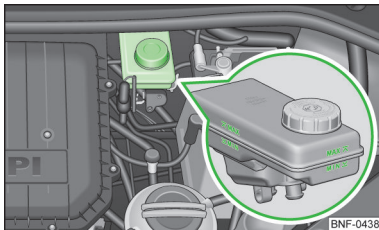

Fig. 102
The brake fluid reservoir is located in the engine compartment » Fig. 102 on page 113.
- Do not continue your journey if the fluid level has dropped below the "MIN" marking » Fig. 102 on page 113,  do not continue driving - there is a risk of an accident! Seek help from a specialist garage.
➤ Check the level of brake fluid in the reservoir » Fig. 102.